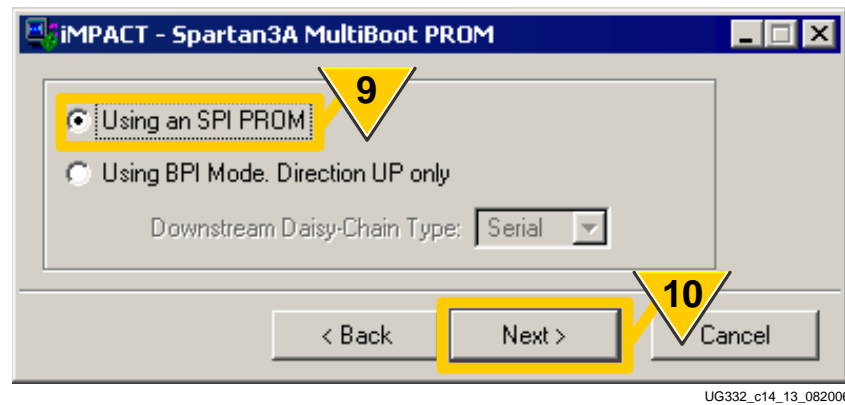

Figure 14-14: SPI or Parallel Flash PROMs are Supported
9. As shown in Figure 14-14, choose whether to create a Spartan-3A/3AN/3A DSP MultiBoot image for SPI serial Flash or for parallel NOR Flash, using BPI mode. This example uses an SPI PROM.